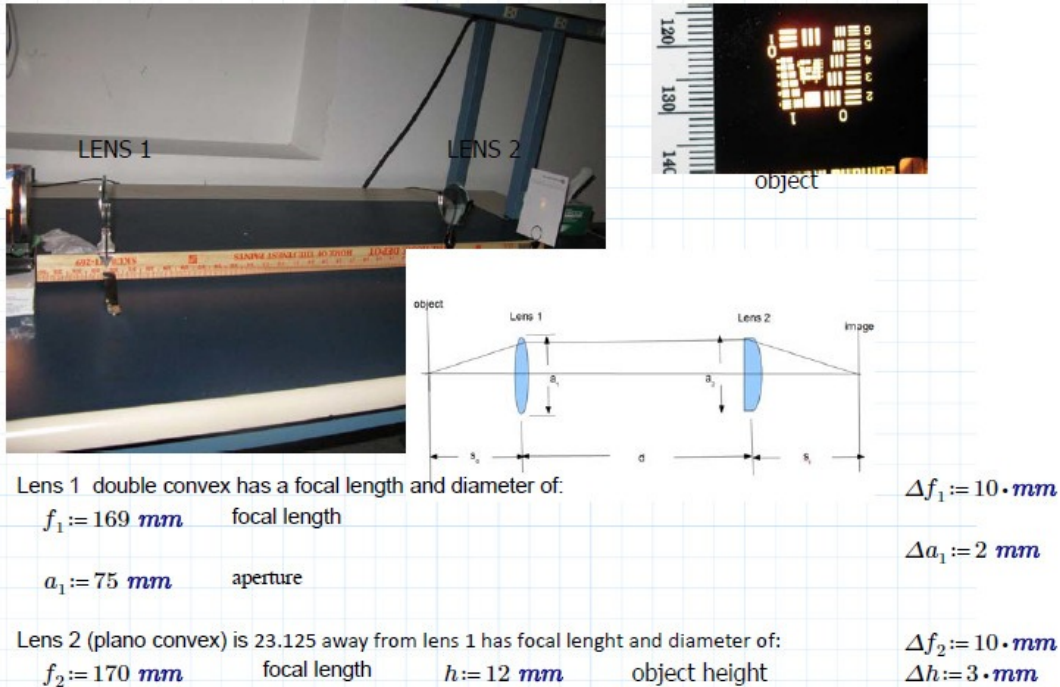

Fig. 9. Screen shot from student's lab work report. Geometric Optics Course.
An example of a page of a student's lab work report is shown in Figure 9. Here, an experimental set up is shown where the student has a two (2) lens system set up on a low cost optics bench made up of a wood meter stick and metal lens and screen holders. The USAF target (object) is illuminate from behind and the image is evaluated on the screen. The numerical parameters are also shown on this page by the student.